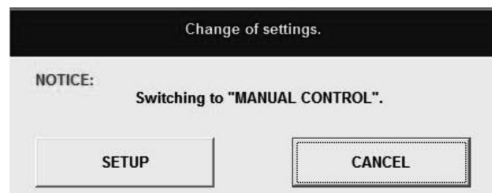

Fig.34
- ④ After filling in all the fields, click on "SETUP" button. A message box as shown in Fig. 34 appears in response.